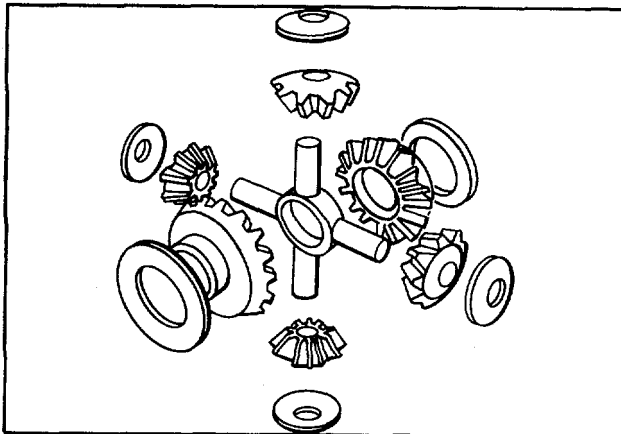

Figure 6.
4. Place spider with pinions and thrust washers in position (refer to Fig. 6 and 7).